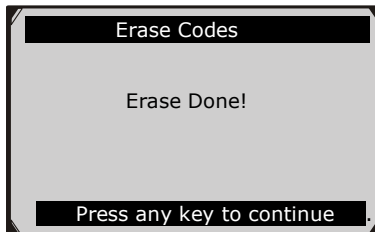

Figure 6-7
- If the codes are cleared successfully, an “Erase Done!” confirmation message shows on the display.(Figure 6-7)